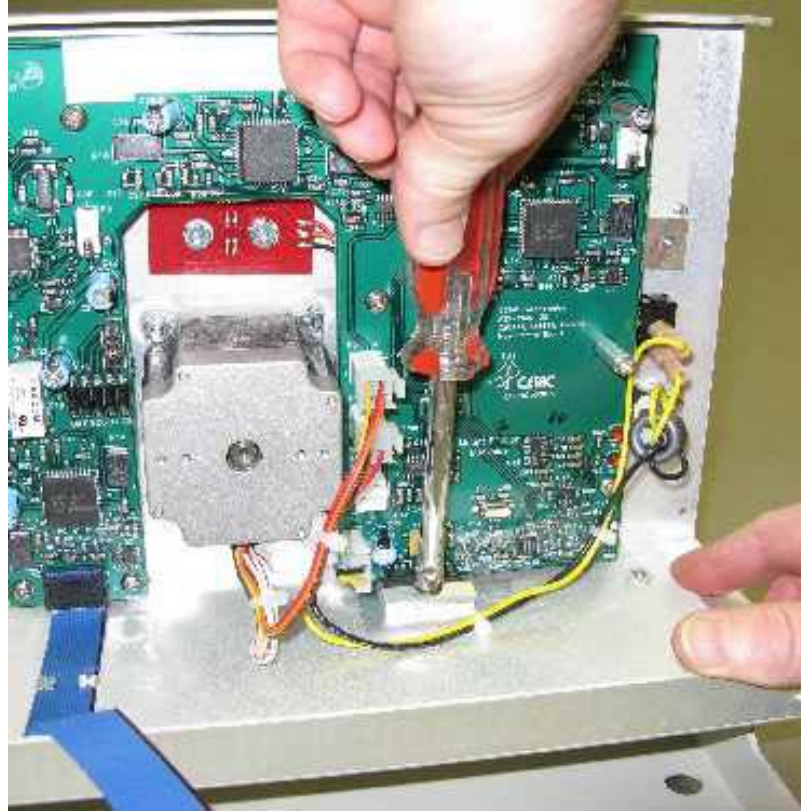

Figure 1-32 Removing the voltage regulator heat sink (ASX-260).
6. Remove the voltage regulator heat sink using a 1/4" nut driver (Figure 1-32). Set this aside for re-assembly.